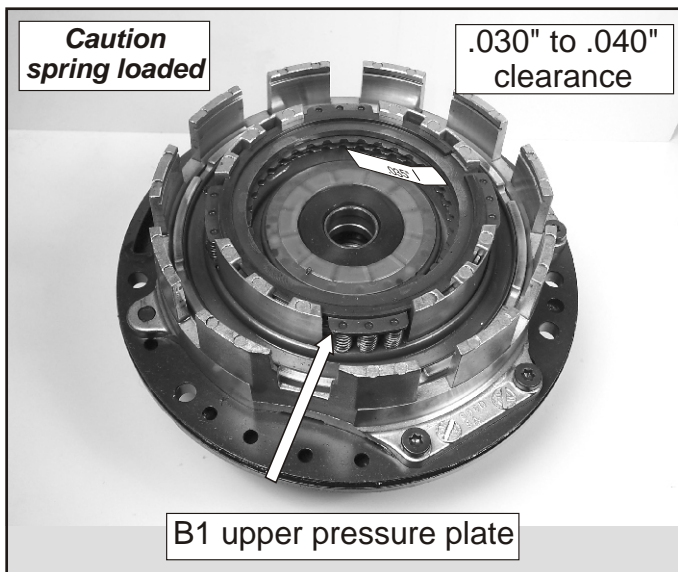

Figure 123
- 70. Assemble the B1 upper pressure plate on top of the spring retainer as shown in Figure 123. Press it down and assemble the retaining snap ring. Check B1 clutch clearance using a feeler gage. Clearance should be between .030"-.040."